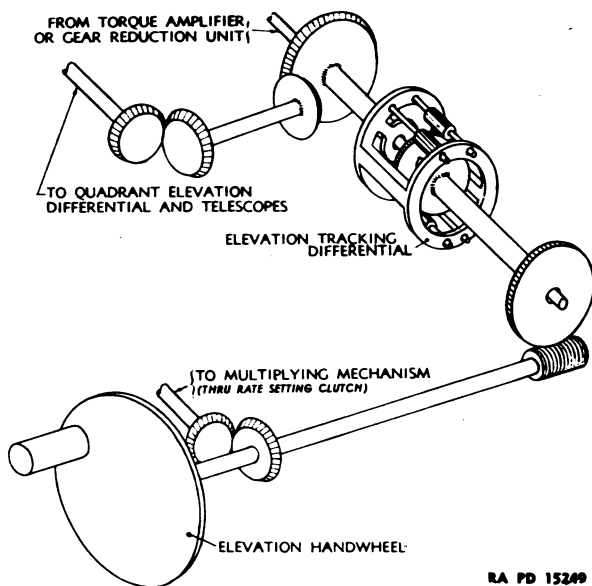

Figure 36 — Elevation Drive Shaft and Elevation Tracking Mechanism — Schematic Diagram
drive shaft group by having an extra bracket holding an independent shaft assembly which gears the output of the elevation tracking mechanism to the quadrant elevation mechanism (fig. 36).
c. **Elevation Tracking Mechanism** (figs. 36 and 37). This is essentially the tracking differential which adds mechanical elevation tracking motion and hand tracking motion. The output is sent to the quadrant elevation mechanism and the telescope shaft through a shaft and gears which are bracketed to the drive shaft group. The bracket and pinion are not a part of either unit, however.